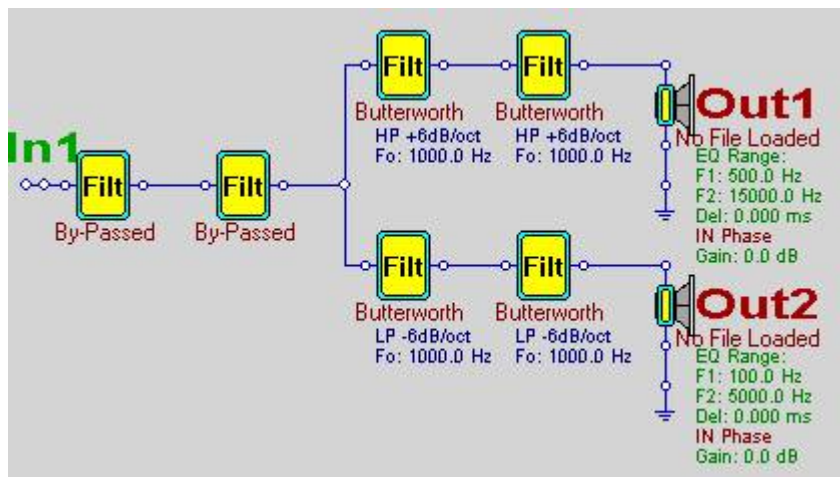

Figure 128. Bypassed voicing elements.
- The bypassed elements will be labeled as such in the CAD screen, Figure 128.